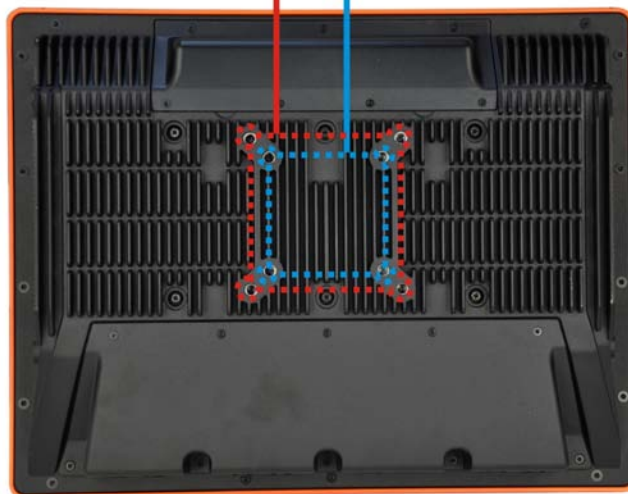

Figure 3-7: VESA Mount Retention Screw Holes
The panel PC is VESA (Video Electronics Standards Association) compliant and can be mounted on an arm, a stand or a bracket with a 100 mm/75 mm interface pad. M8 and M4 mounting screws can both be used for VESA mount. The VESA mount retention screw holes of the UPC-V315-NM70 are shown in **Figure 3-7**.
- Step 3:** Align the retention screw holes on the mounting arm interface with those in the panel PC. The arm mount retention screw holes are shown in **Figure 3-7**.
- Step 1:** Locate the screw holes on the rear of the UPC-V315-NM70. This is where the stand bracket will be attached. The stand mount retention screw holes are shown in **Figure 3-7**.